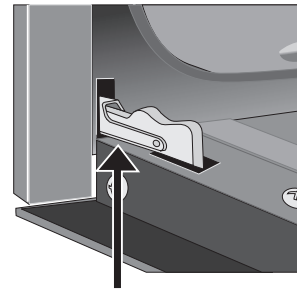

Figure 20: Door hinge locks
2. Pull up the lock located on each hinge support toward front of the oven. You may have to apply a little upward pressure on the lock to pull it up (Figure 20 and Figure 21).
4. Push the door hinge locks up toward and into the oven frame on both left and right oven door hinges to the locked position (Figure 20).